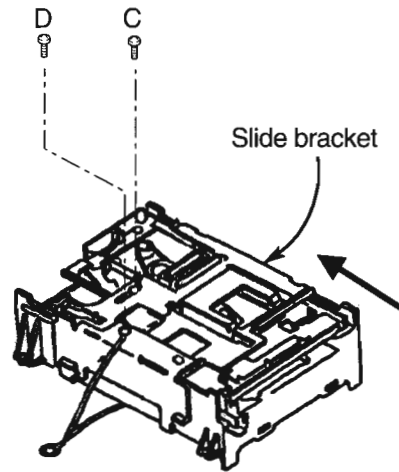

Fig.3
■ Removing the MD traverse mechanism (see Fig.3,4)
5. Remove the one screw ② retaining the clamber (see Fig. 3).